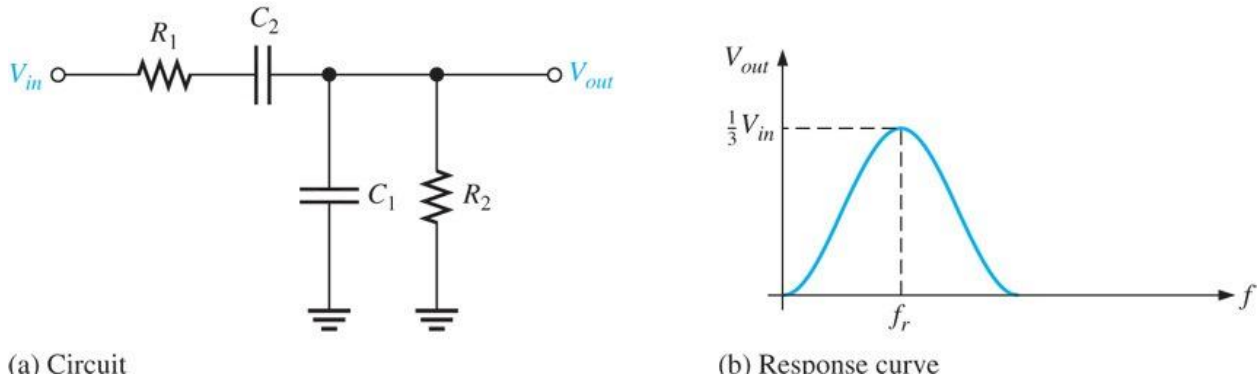

Figure 6 A lead-lag circuit and its response curve.
- A fundamental part of the Wien-bridge oscillator is a lead-lag circuit like that shown in Figure 6(a).
- The response curve for the lead-lag circuit shown in Figure 6(b) indicates that the output voltage peaks at a frequency called the **resonant frequency**, f_r .